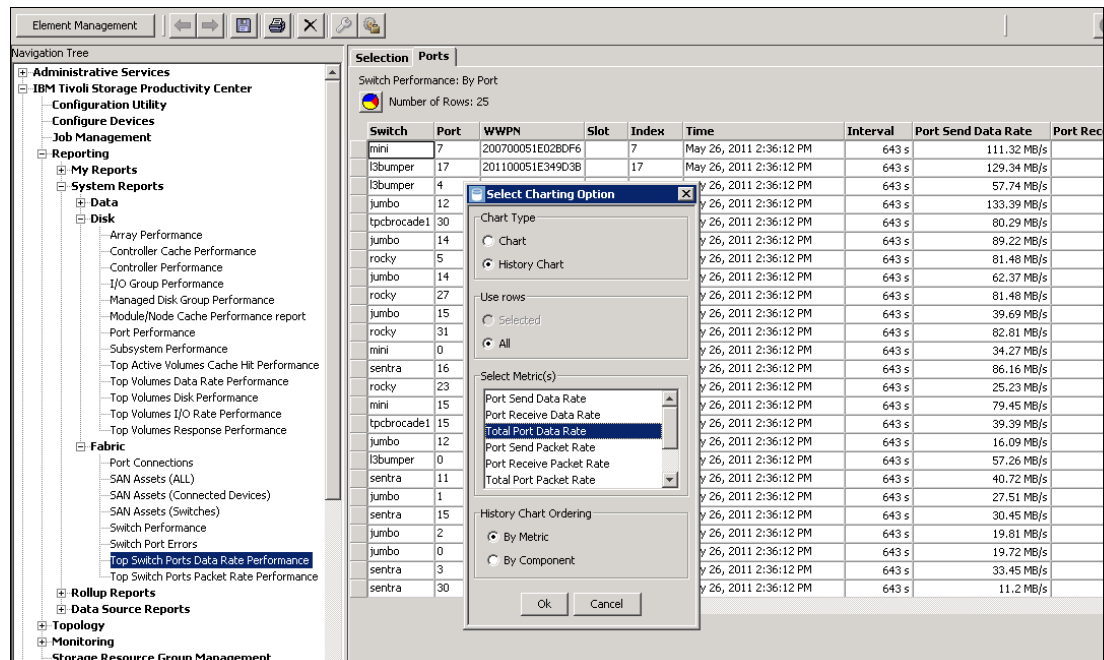

Figure 13-100 Port Data Rate selection for the Fabric report
3. In the Select Charting Option window (see Figure 13-100), select **Total Port Data Rate**, and then click **OK**.